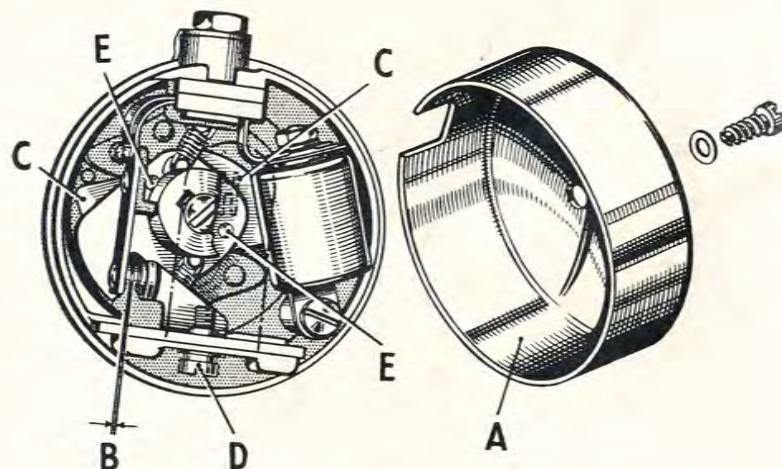

Fig. 5. Contact Breaker and Auto-Advance Mechanism.
The contact breaker is exposed by removal of the cover (A), after taking out the securing screw, Fig. 5. The gap between the points when they are fully open should be .015 in. Rotate the engine slowly until the rocker is on the peak of the cam then check the gap at (B)
Inspect the mechanism when checking the contact breaker adjustment, and make sure that the weights (C), Fig. 5, move freely. Oil the bearings (E) with a few drops of light oil. Do not over lubricate or the excess oil may find its way on to the contact breaker points.